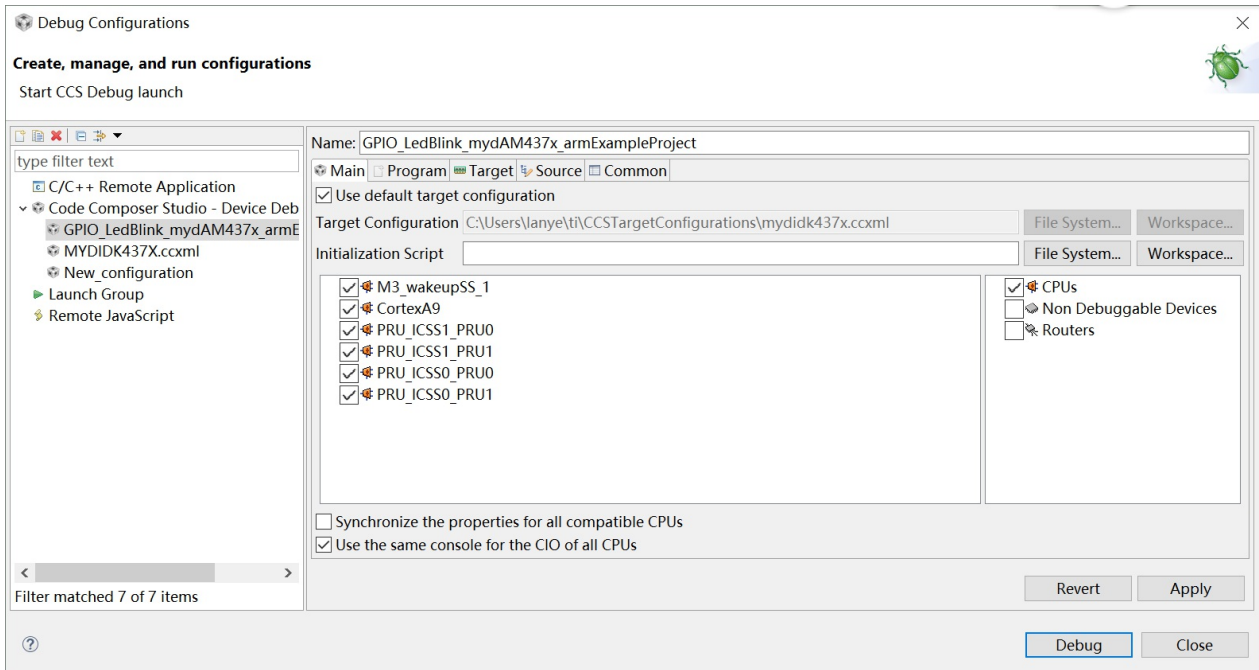
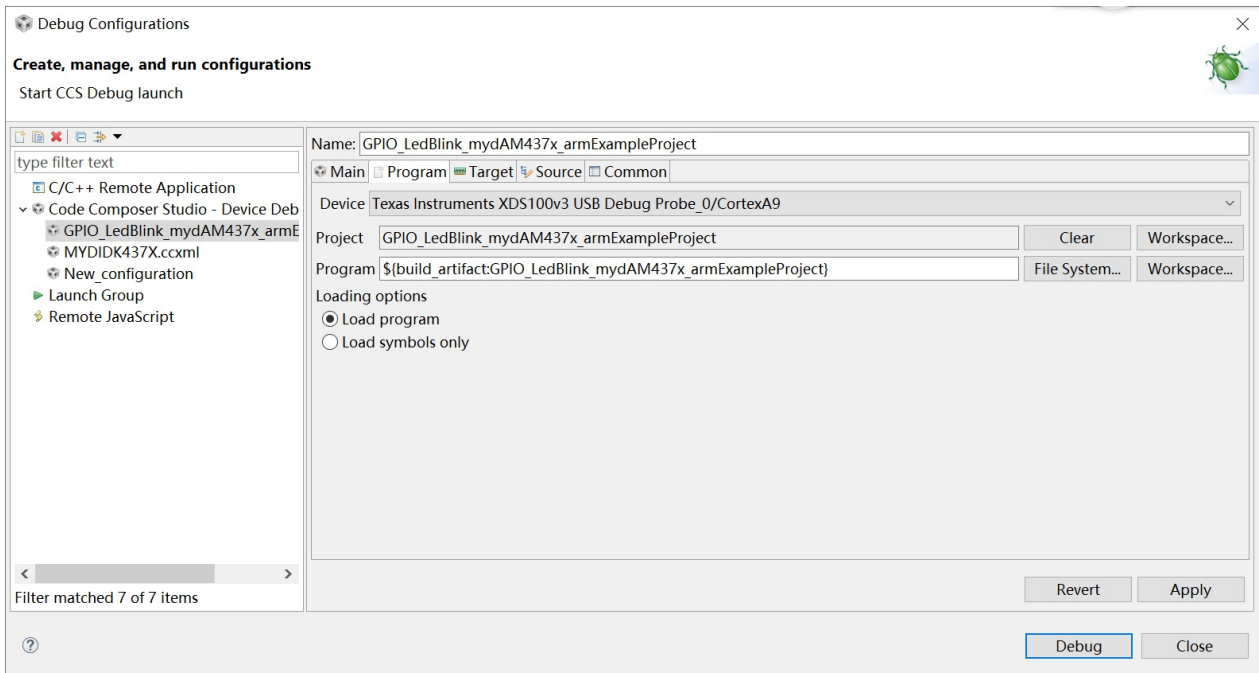

Figure 3-3-3 Debug Configurations Settings-1 of gpio_ledblink
Figure 3-3-4 Debug Configurations Settings-2 of gpio_ledblink
3. Name the configuration to `GPIO_LedBlink_mydAM437x_armExampleProject`, and set the parameters as shown in figure 3-3-3 and figure 3-3-4 below